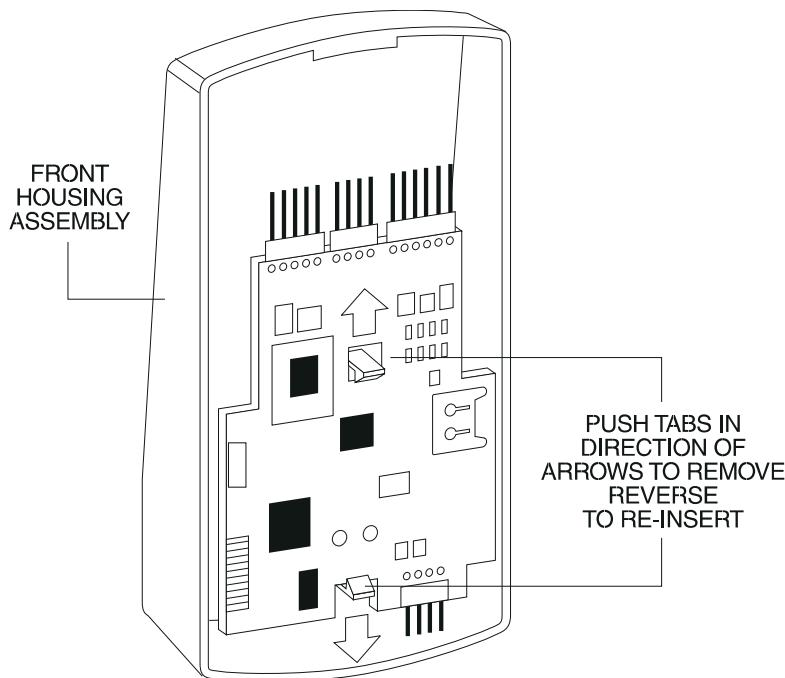

Figure 2-6 Removing/Inserting Printed Circuit Board
2. (When handling the main printed circuit board, to guard against possible static discharges, hold the board by its edges with one hand and then touch a grounded object BEFORE touching the prox.pad plus unit.) Remove the main printed circuit board by pressing the two spring tabs in the direction of the arrows as shown in Figure 2-6. Be careful with the wires.